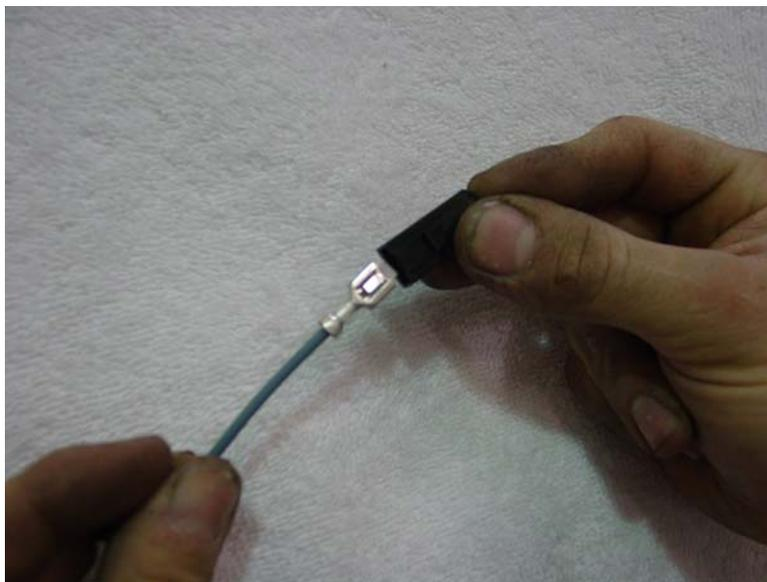

Figure 5
2. Slide the included black male connector over the blue wire terminal which was just removed from headlight harness connector as seen in Figure 5. Connect the stock blue wire to white female connector (blue wire) on module pigtail harness.